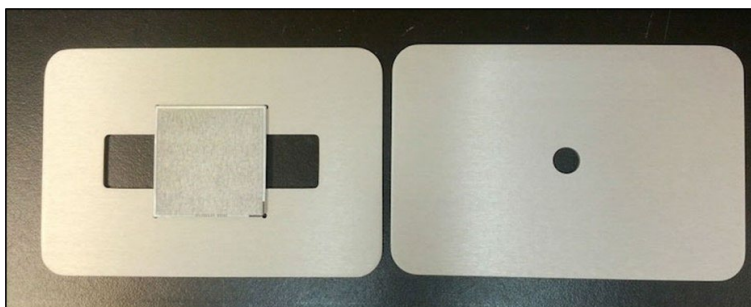

Figure 9. Nanodispenser Chip Centrifuge Spinner (left, with chip loaded) and Chip Balance (right).
- Nanodispenser Chip Centrifuge Spinner and Chip Balance (Figure 9), included with the Shasta system)